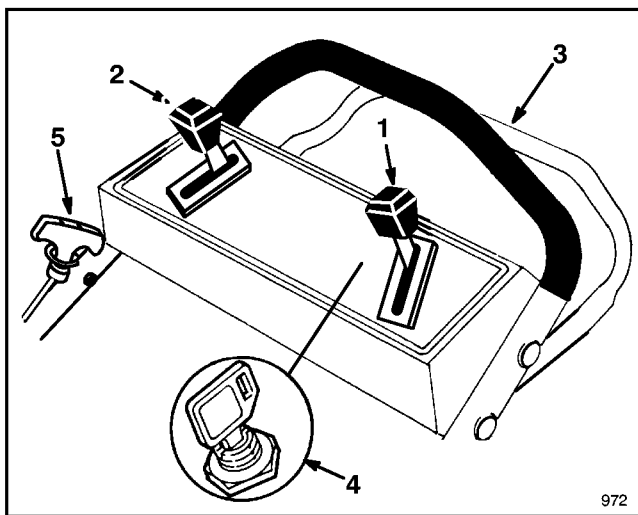

Figure 9
1. CONTROLS—Key switch (electric start model), throttle, ground speed control, control bar and recoil starter are on upper handle (Fig. 9).
5. KEY—LECTRIC STARTING—Turn key to (START) and release when engine begins running. When engine starts, remove throttle from (CHOKE) and regulate engine speed as desired. If the battery's charge is too weak to start the engine, the engine can be started with the recoil starter (Fig. 9).
7. GROUND SPEED (Fig. 9)—The mower has three ground speeds: number “1” is slow, “2” is medium, and “3” is a fast walking pace. Move ground speed control to desired setting. **Ground speed can be varied by increasing or decreasing distance between control bar and handle.** Lower control bar to slow mower when making a turn, maneuvering, or if mower is moving too fast for you. If you lower control bar too far, the mower will stop self-propelling. Squeeze control bar closer to handle to increase ground speed. When control bar is tight against handle, mower will self-propel at maximum ground speed. The control bar does not have to be squeezed tight against the handle to self-propel. Move ground speed control to when using the mower for trimming and whenever leaving mower.